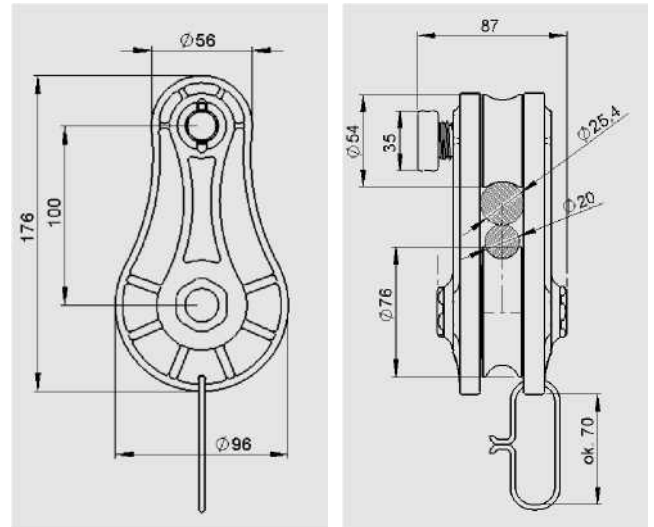

**Figure 2. Rope blocks TU400-TU403**
- Small equipment **Figure 2**